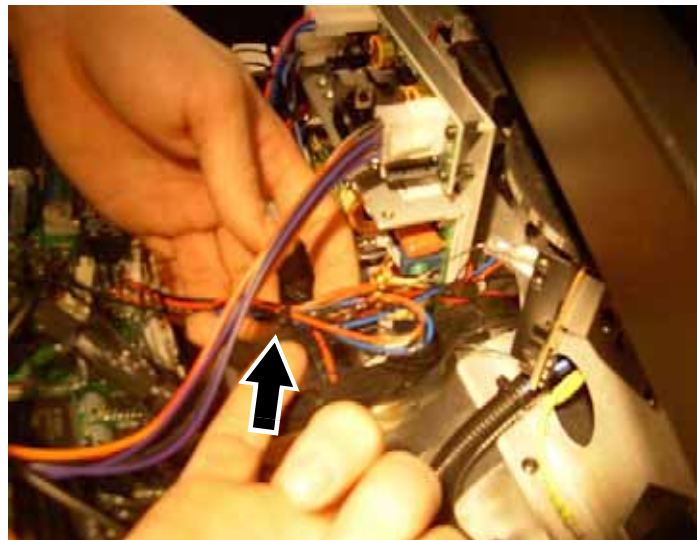

Figure 15
16. See Figure 15. Cut the cable tie (arrowed) on the ballast fan leads.